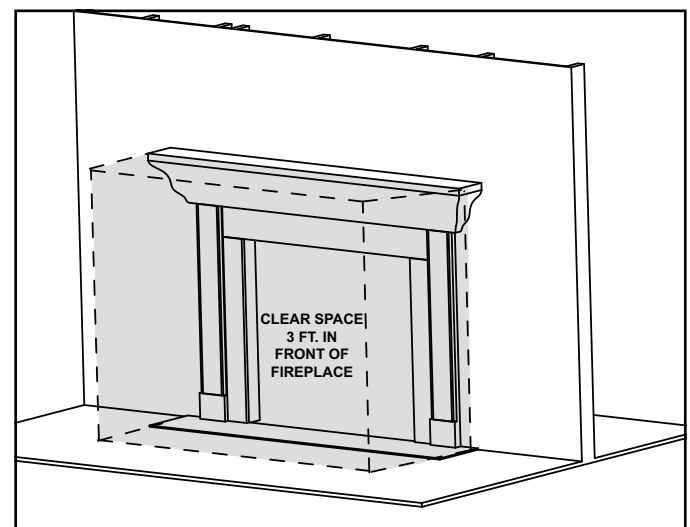

Figure 3.1 Clear Space Requirement - All Models
**WARNING! DO NOT place combustible objects in front of the fireplace or block fireplace openings.** High temperatures could start a fire. See Figure 3.1.